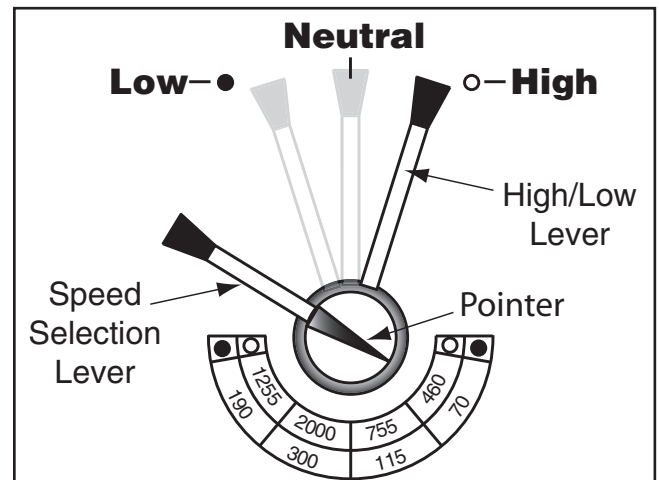

Figure 50. Spindle speed levers; High/Low lever positioning.
- Move the High/Low lever shown in **Figure 50** to the range for your desired speed. Typically the spindle must be slightly rotated by hand to allow the gears to engage when moving the spindle speed levers.
- Move the speed selection lever, so the pointer on the hub points to the desired speed setting (see **Figure 50**).